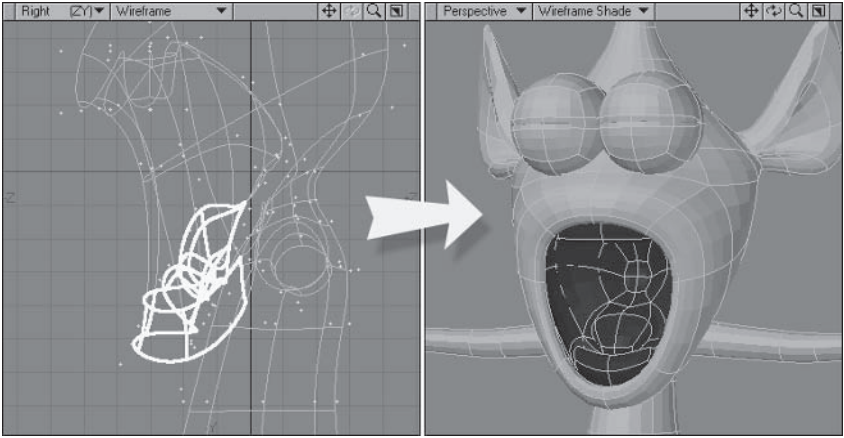

Figure 3.5-7. Finished open mouth.
3. Tweak the points using Figure 3.5-7 as a guide. When you're finished, **Unhide** (\) the hidden geometry.